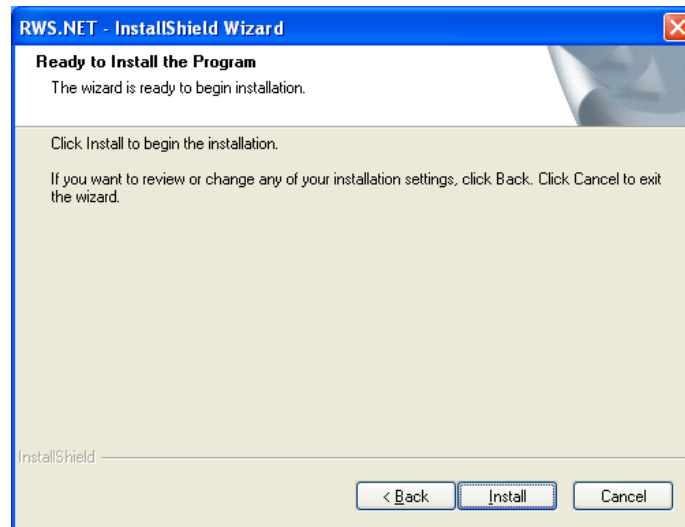

Figure A-11: Ready to Install the Program Window
5. Click **Next** to display the *Ready to Install the Program* window (Figure A-11).